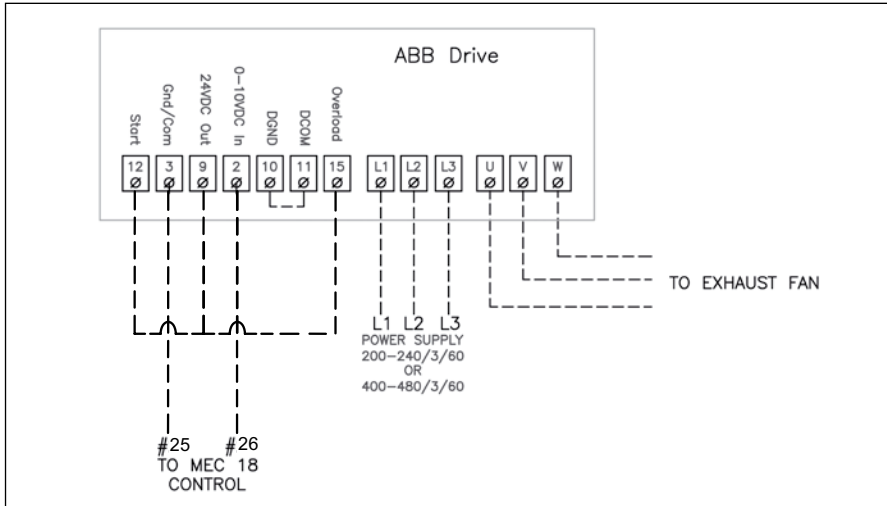

Fig. 10
- If using a 3-phase fan and VFD, connect the VFD to terminals 25 and 26 as shown in Fig. 10 and 11. DO NOT connect the fan directly to the MEC 18 control.
Wire the ABB ACS320 series variable frequency drive according to Fig. 10.